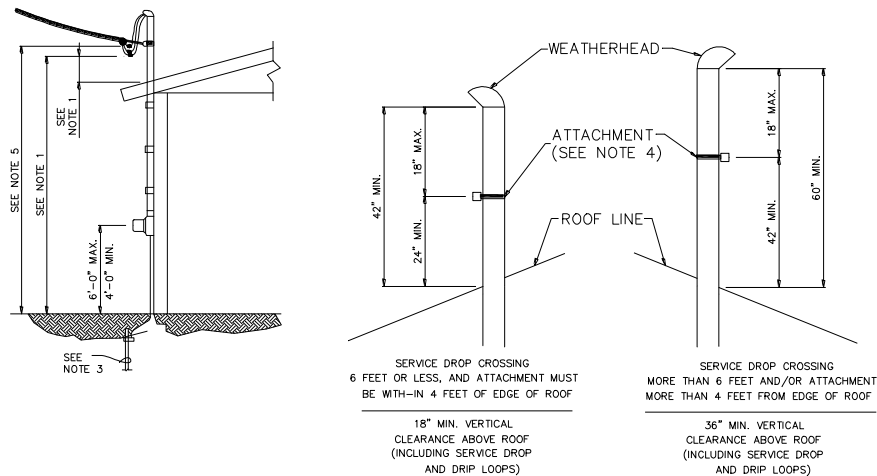

FIGURE 3.03A – OVERHEAD ELEVATED MAST
In the event the construction of a building does not provide proper clearances for a service drop attached to a wall or eave, a minimum 2-½ inch rigid galvanized steel mast or other approved support shall be provided by the Consumer to elevate the point of attachment (*see Figure 3.03a*). The mast or other support structure shall be strong enough to support the sustained load of the service drop. In no case shall this mast or support structure to be used for any other purpose. A minimum of three (3) feet of service entrance wire shall be left projecting from the service weatherhead for connection by Beaches Energy to the Consumer's service drop.